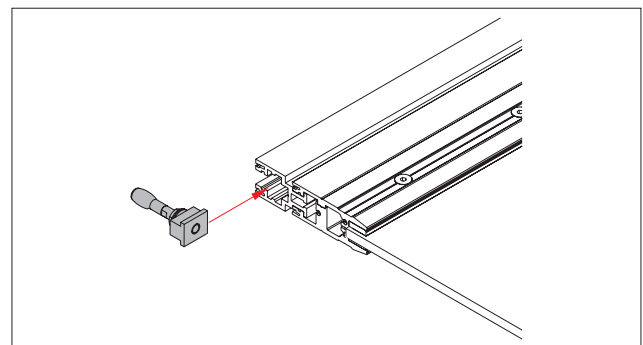

Fig. 21 Inserting the support block
10. Insert the support block into the upper door rail/ the upper carrier profile (Fig. 21).